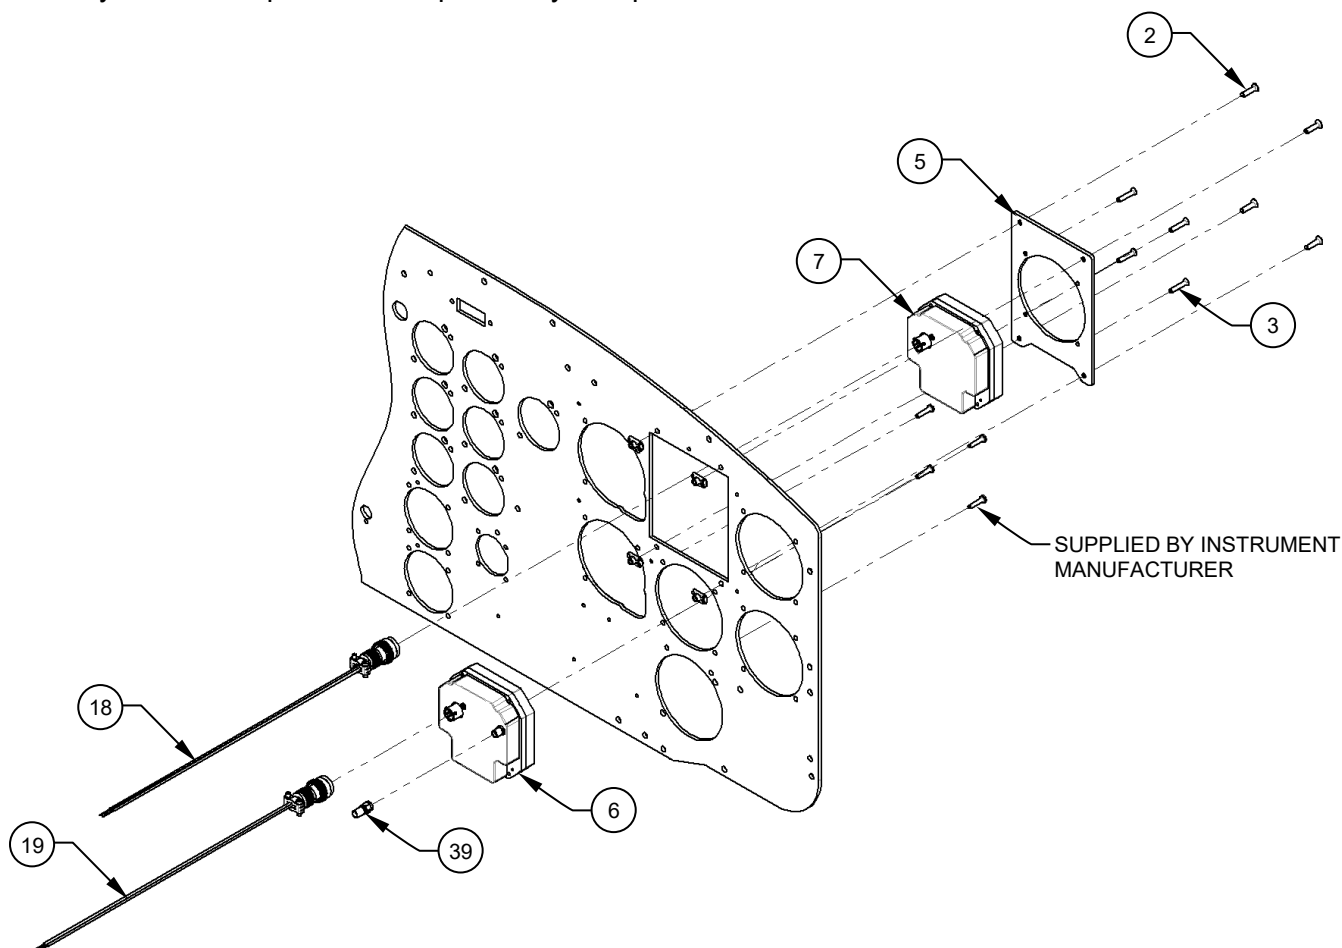

Figure 6
4. On the LHS of the cockpit, remove all fasteners common to the Adaptor, Detail (Item 5) and remove the Adaptor, Detail, and the Attitude Indicator (Item 7) as a unit or alternately, remove the Attitude Indicator directly from the instrument panel (as applicable). Remove the Heading Indicator (Item 6) directly from the existing instrument panel. Reference Figure 6.